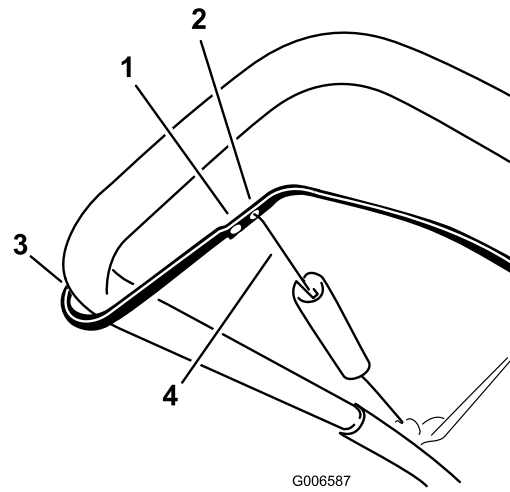

Figure 18
**Note:** After extended use, the drive belt may wear and lose its proper belt tension. If the drive belt slips (continuously squeals) under a heavy load, disconnect the spring from the adjuster link and move the upper end of the spring to the hole that is further from the pivot point in the control bar (Figure 18). Then connect the spring to the adjuster link and adjust the control cable.